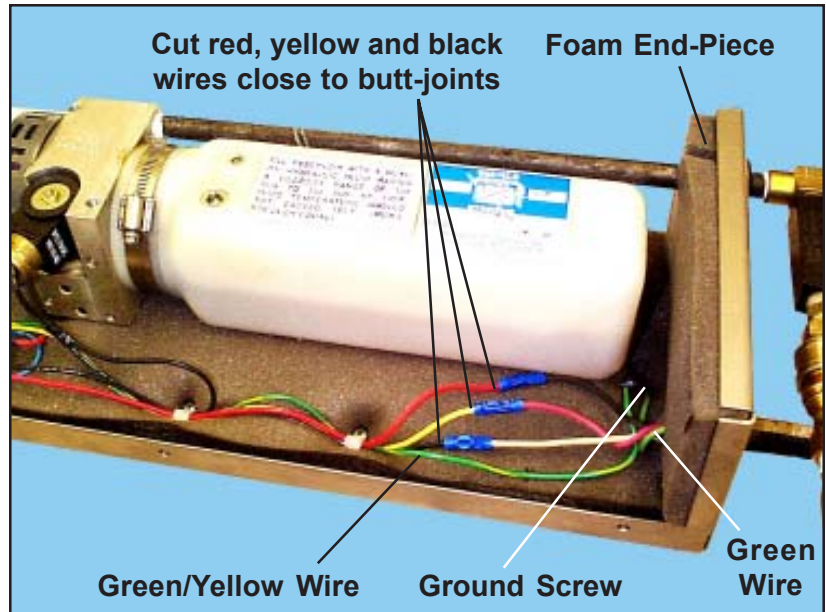

Figure 71. Power Pack Interior
4. Cut off the red, yellow and black wires as close as possible to the butt-joint connectors (Figure 71).